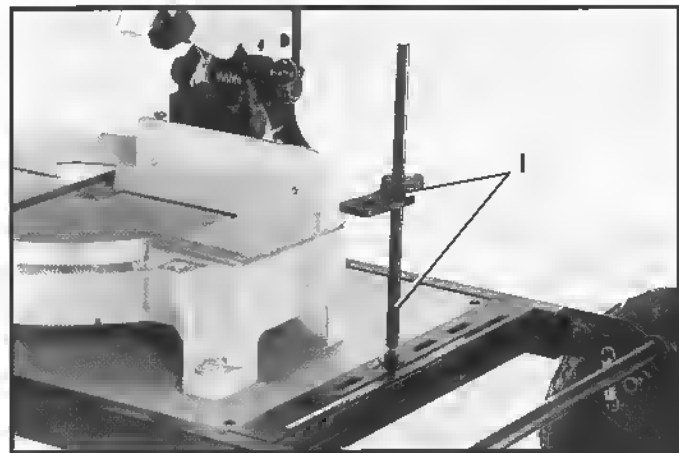

Fig. 44
1. Assemble the stock lift inhibitor (I) Fig. 44, to the frame of the saw stand as shown. Fasten the inhibitor (I) from underneath using the special plate, flat washer and nut supplied. **IMPORTANT:** The post of the inhibitor (I) must be behind the fence of the saw so as not to interfere with the workpiece.